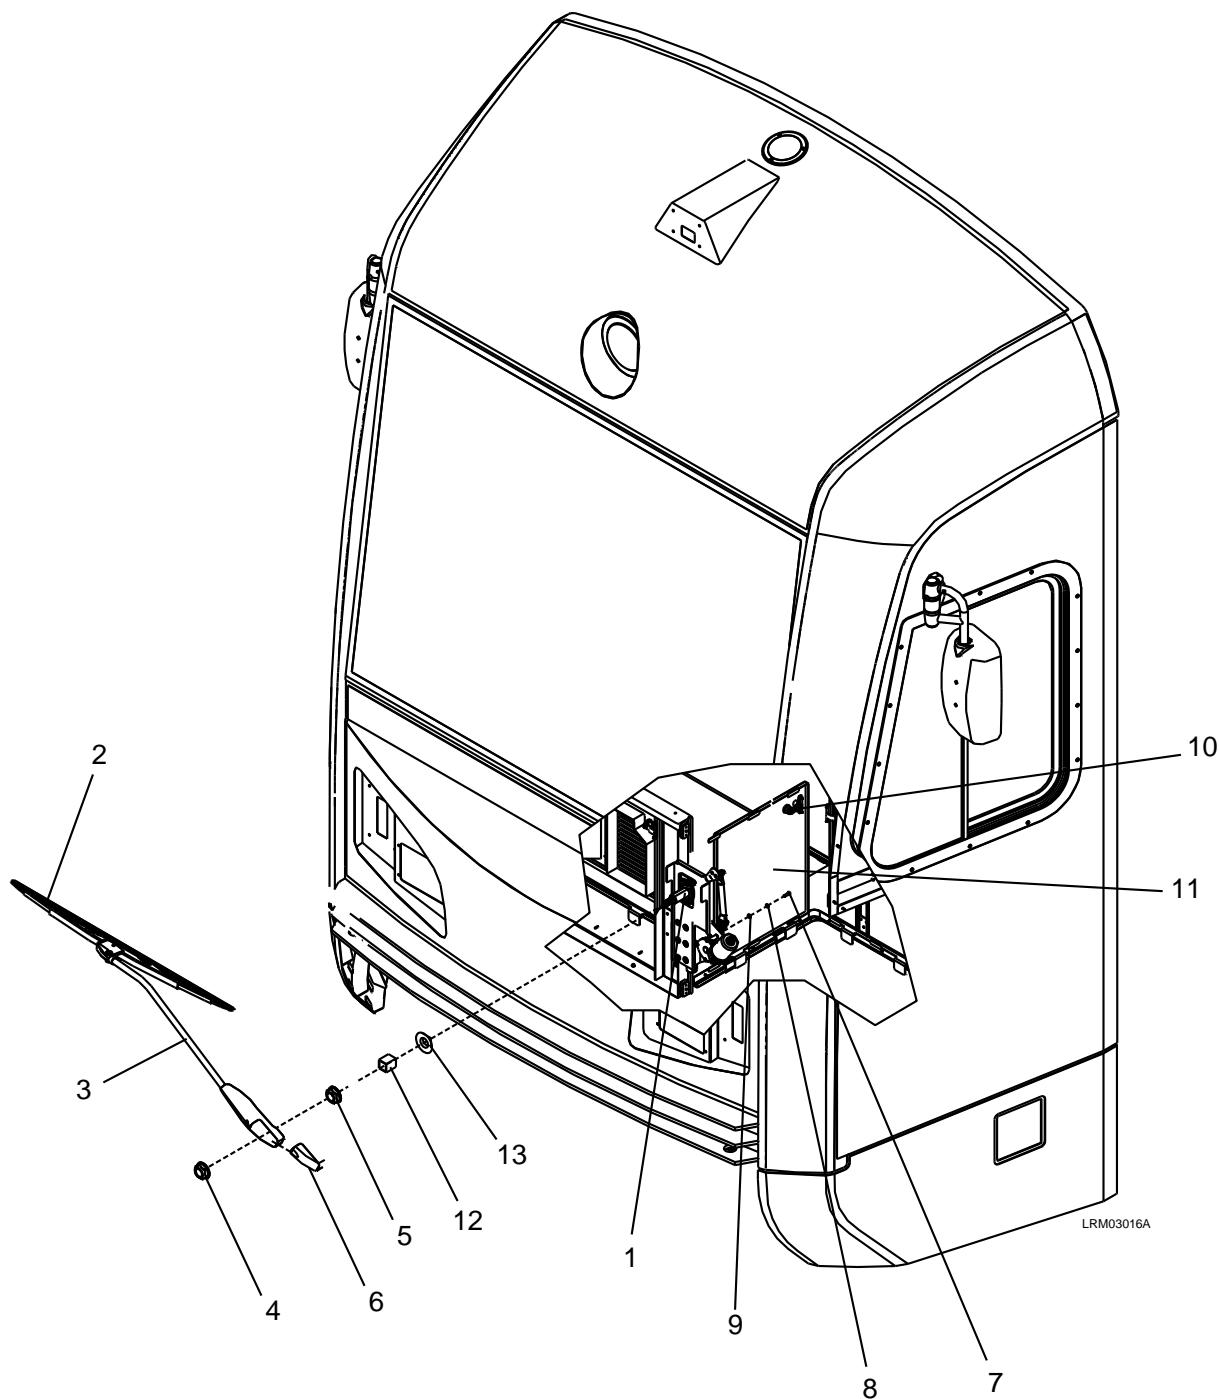

Figure 7-14: Windshield Wiper
1. Unlock the two locks (10) and remove the left cab desk access panel (11). See Figure 7-14.
3. Remove the six mounting bolts and remove the master controller to gain access to the Wiper Motor Assembly (1).
4. From the outside of the car, open the screw cover (6) and remove the M14 nut (4).
5. Carefully remove the wiper arm (2 & 3) and spanner nut (5) along with the sealant.
6. From the inside of the car, remove the three M6 x 18 bolts (7), M6 lock washers (8), and M6 plain washers (9).
7. Disconnect the wiper motor plug. Carefully remove the Wiper Motor Assembly (1) along with the spacer (12) and wiper spacer (13).